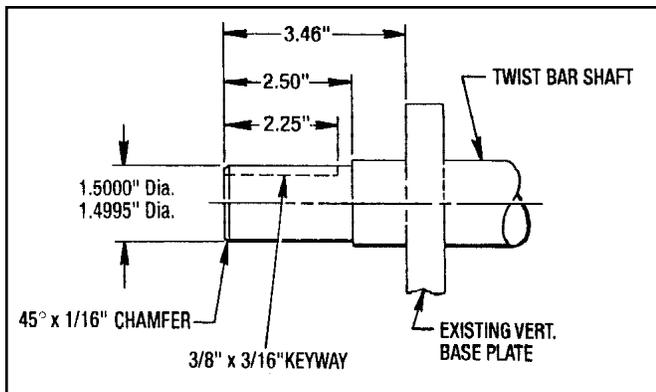

Figure 2.3 - Twist Bar Modifications
2. Remove the Twist Bar Shaft and modify as shown in Figure 2.3.